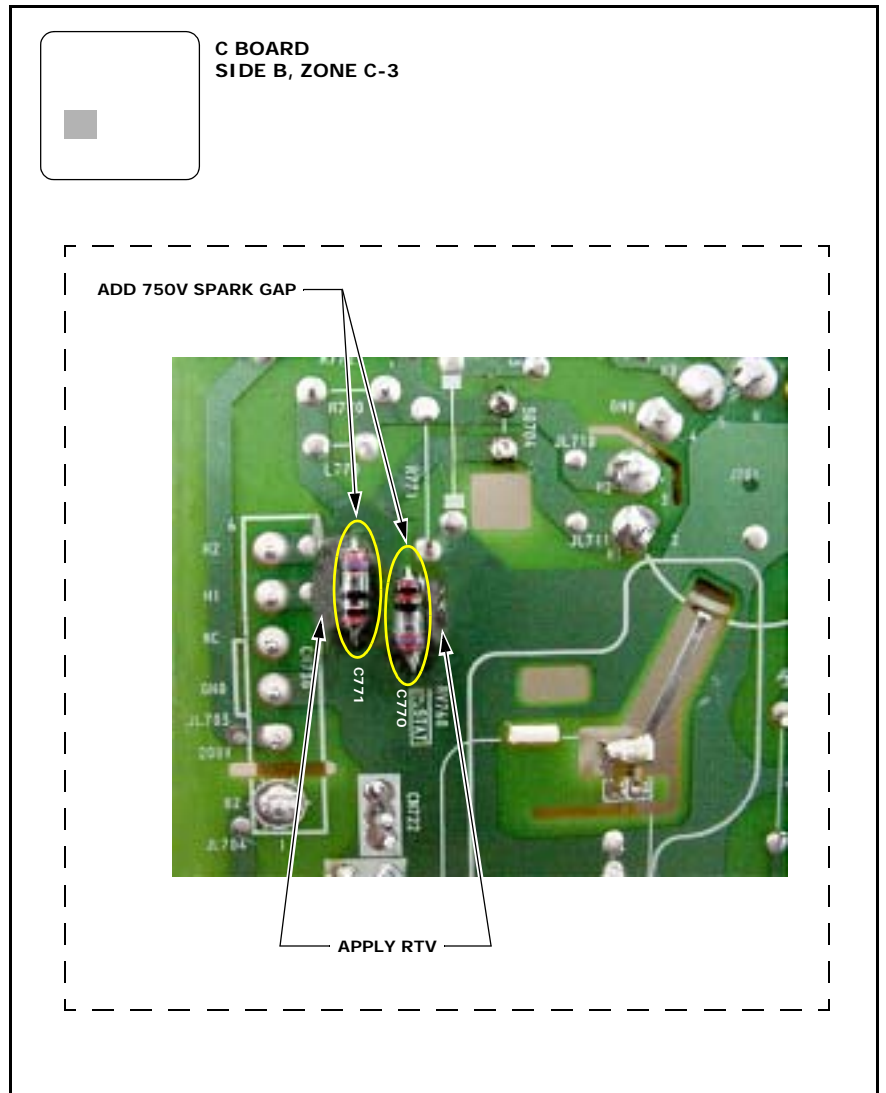

Figure 2
4. Add 750V spark gaps to C771 and C770. (See Figure 2.)
5. Apply RTV as shown in Figure 2.